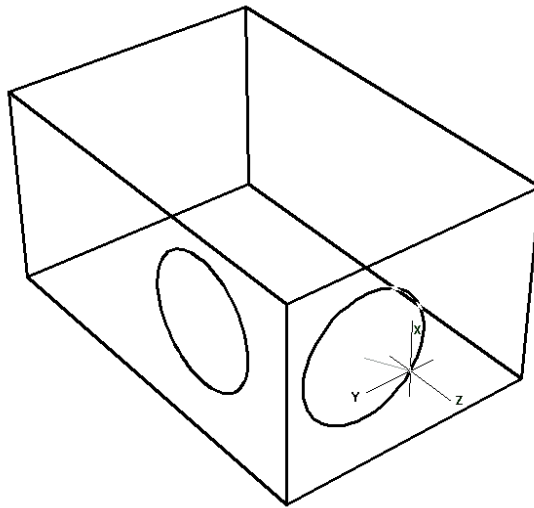

FIGURE 21-4:
Figure 21-4 shows an example of drawing a circle on the side of a 3D solid. When Dynamic UCS is enabled, AutoCAD highlights the face of the 3D solid that the UCS will be aligned with. Click over the face to align the UCS with the face, and then finish the command. The circle is aligned with the face of the 3D solid, and the previous UCS is then restored.
- » **Wireframe:** Pretty much the same as 2D wireframe, except for background color, optional perspective, and the 3D (rather than 2D) UCS icon. Figure 21-4 shows a simple model in the Wireframe visual style.